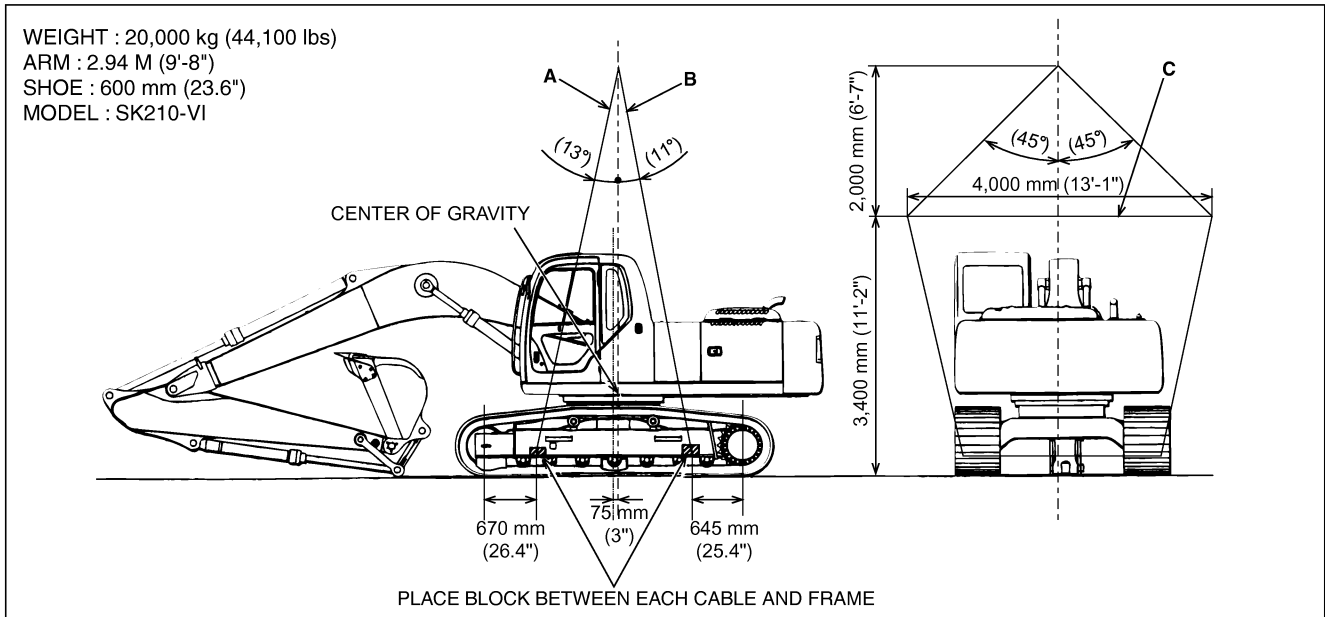

FIGURE 5.5A
- c. Bring loose ends of cables together at machine center of gravity and attach to an overhead lifting device with a rated lifting capacity sufficient to lift the machine. See Figure 5.5A to 5.7A.
**NOTE:** It may be necessary to place reinforced spreader bars between lifting cables to prevent damage to the machine during lifting. See Figures 5.5A to 5.7A.